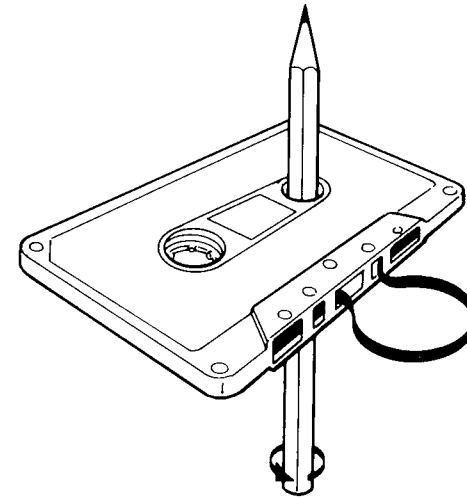

Fig. 5
8. Check and make sure any slack in the tape is taken up before inserting the tape into the unit. A loose tape could cause damage to the unit and the tape itself. Tighten the cassette by inserting a pencil or a similar instrument into the spindle hole and turn until all the slack has been taken up. (Fig. 5)